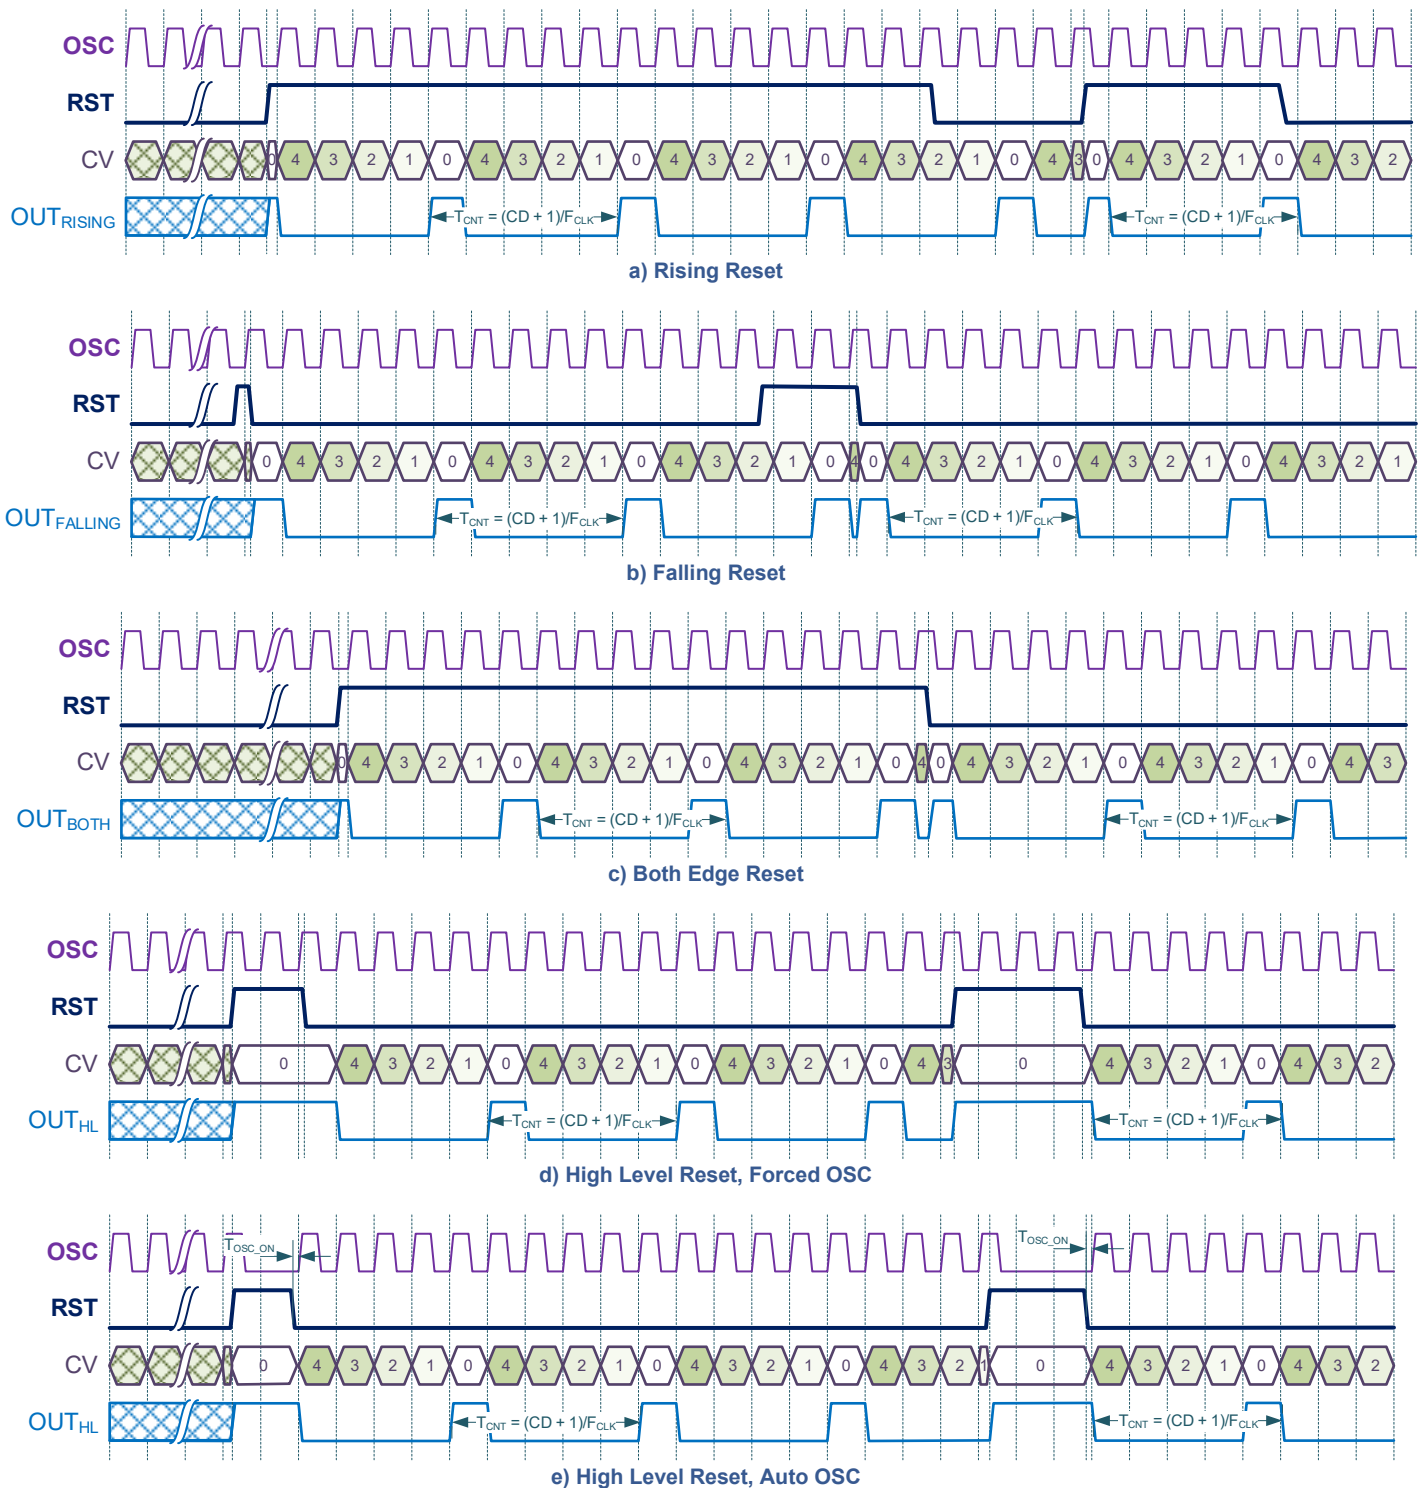

Figure 8.6. Counter Mode (Control Data: 4)
In Counter mode, the TMR divides input clock signal by the value determined by the Control Data, input clock signal, and selected prescaler value. The output of the TMR goes HIGH every time when the Counted Value (current value of the counter) is equal 0. The RST of the TMR reset Counted value to 0 by one of the following events: rising edge, falling edge, both edges, high level. The timing diagrams of this mode are shown in the Figure 8.6.
- Counter (Figure 8.6)